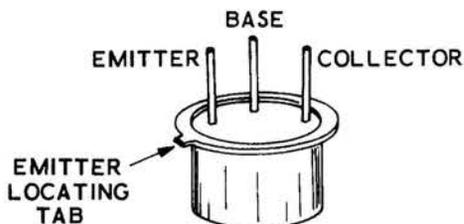

Figure 1K
- () Connect the black lead to the base wire and connect the red lead of the ohmmeter to collector wire of one of the transistors (see Figure 1K). Note the resistance reading; it should read about 500,000 Ω (too high a resistance to be read on the EK-1 meter).